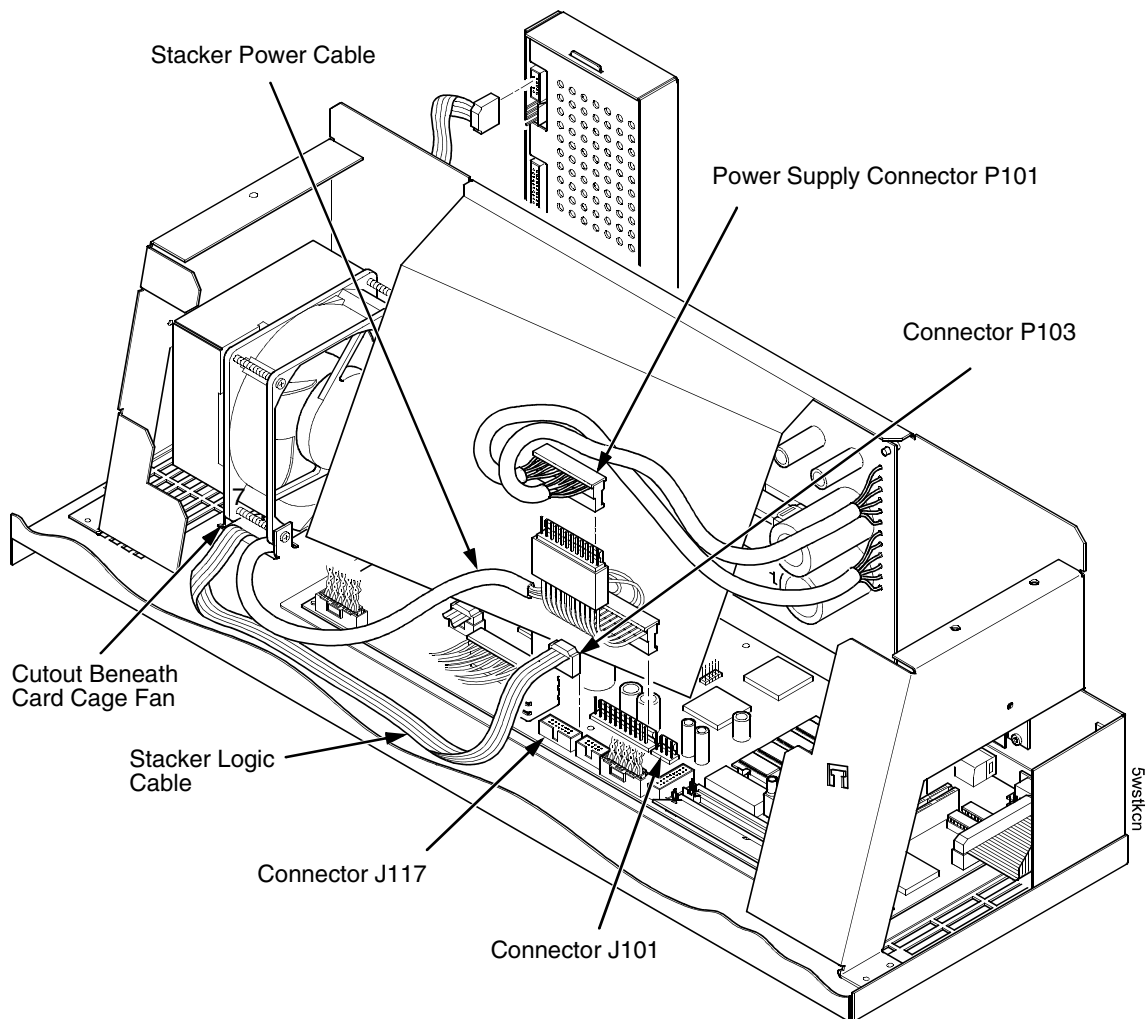

Figure 82. Power Stacker Connections on the PSA3 Controller Board
5. Connect the power stacker logic cable P103 to connector J117 on the controller board. (Figure 82.)
6. Disconnect the power supply cable from connector J101 on the controller board. (Figure 82.)
7. Connect power supply cable connector P101 to the stacker power cable, then connect the stacker power cable to connector J101 on the controller board. (Figure 82.)
8. Route the stacker power cable in front of the controller board and down through the cutout under the card cage fan. (Figure 82.)
9. Route the stacker logic cable in front of the controller board and down through the cutout under the card cage fan. (Figure 82.)